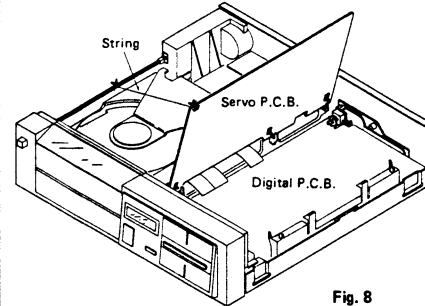

Fig. 8
2. Remove the servo P.C.B. to shift it as in Fig. 8, and check each part.